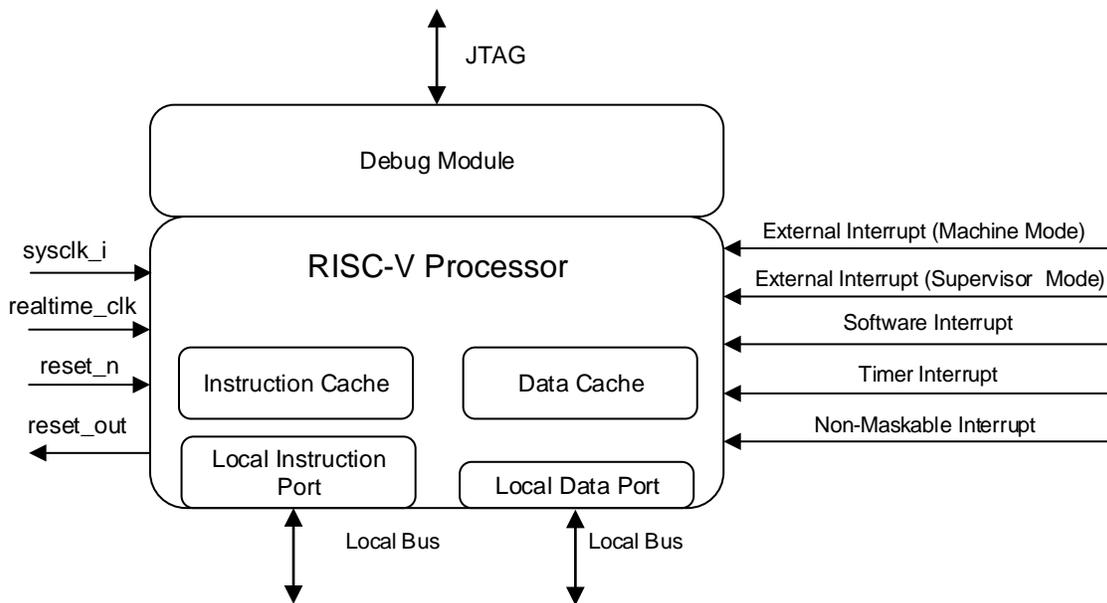

Figure 2.2. RISC-V RX Processor Core Block Diagram
Figure 2.2 shows the processor core block diagram.
Figure 2.2 shows the block diagram of PLIC operation parameter. An example for how it works: interrupt input 1 gets asserted, it goes through the Gateway and sets Interrupt Pending (IP) bit of the Source. If its Interrupt Enable (IE) is set, the priority value can be passed and compared to other inputs all the way through the chain. The interrupt ID is similarly forwarded. So if the Max Priority is larger than the threshold, interrupt pending (EIP) can be asserted and sent to the processor. Meanwhile, the Gateway blocks subsequent interrupts from being forwarded until the current interrupt has been completed. Target 0 goes to machine mode external interrupt, and Target 1 goes to supervisor mode external interrupt.